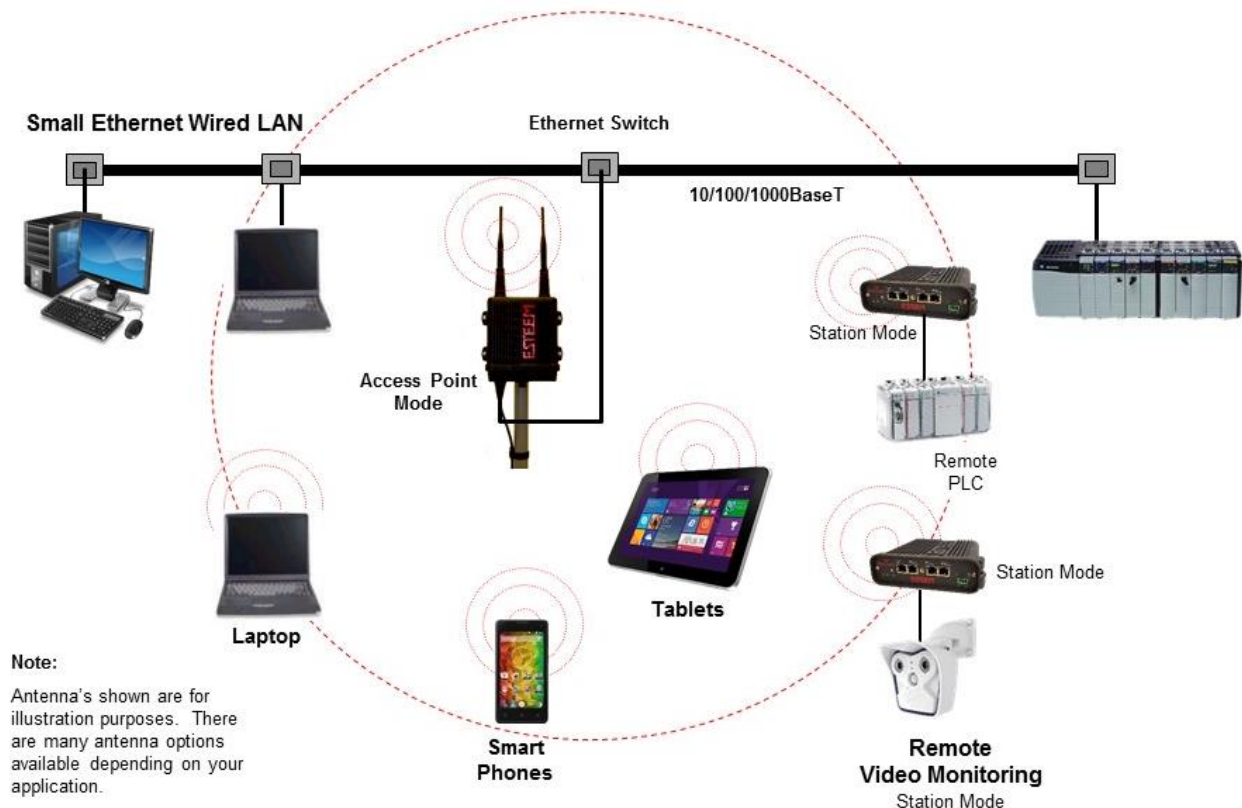
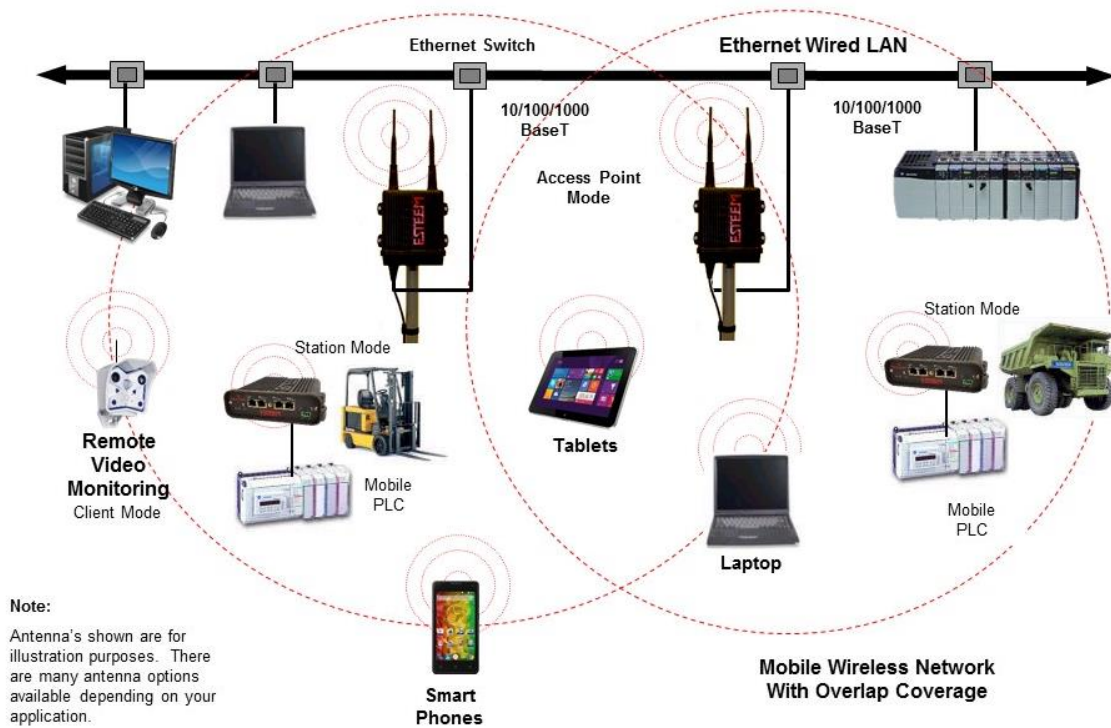
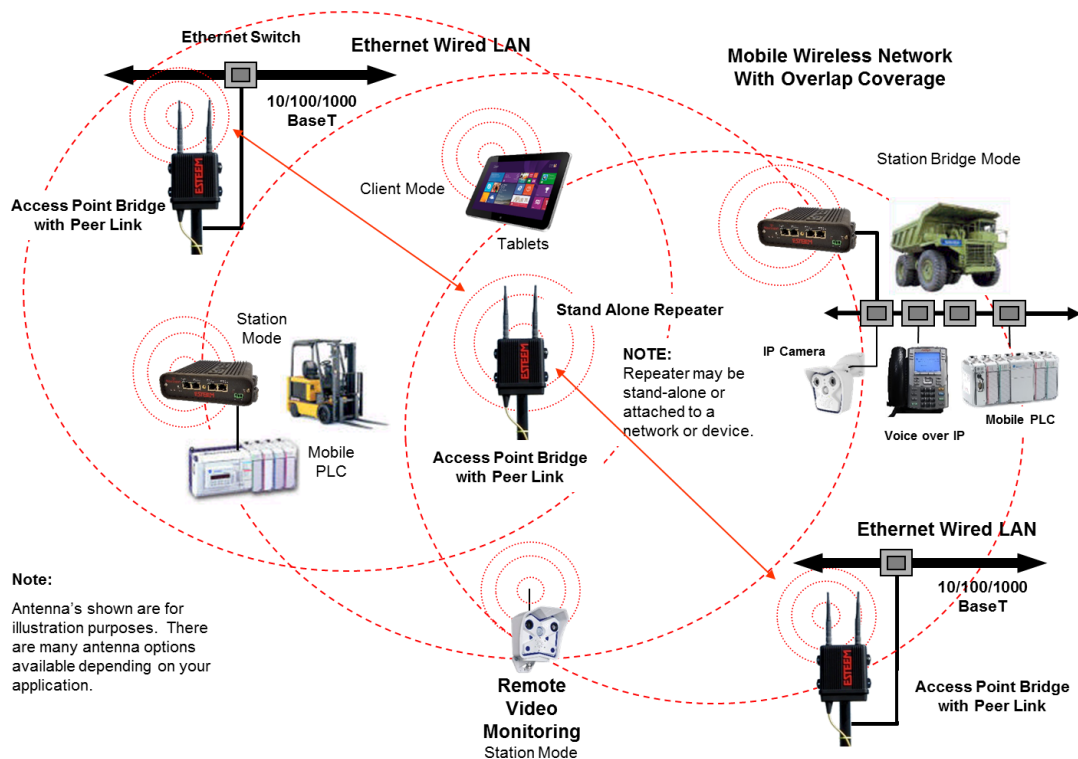

Figure 6: Single Access Point Network
Figure 7: Overlapping Access Point Coverage
Figure 8: Access Point and Ethernet Bridge
The ESTeem Horizon 2.4 GHz and Horizon 5.8 GHz can be configured as a high power 802.11 Access Point (AP). The IEEE 802.11n/g/b Access Point (AP) functionality is available in all three of the Access Point modes (AP Bridge, AP Router or AP Masquerade). The Access Point mode will provide either a single wireless connection (Figure 6) or overlapping coverage (Figure 7) to create a “canopy” of wireless coverage for 802.11 devices. The ESTeem Horizon in AP mode can function as both an Ethernet bridge or router and 802.11 AP simultaneously (Figure 8).